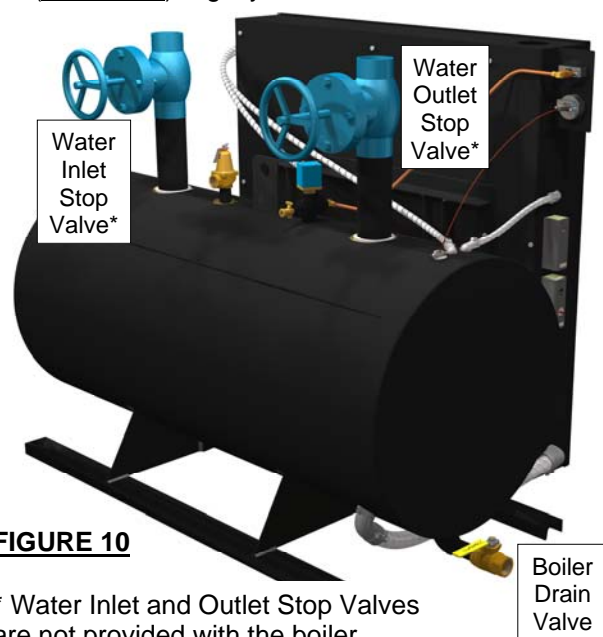

FIGURE 10
- Close the water inlet and outlet stop valves (FIGURE 10)
- Ensure that the boiler drain valve (FIGURE 10) is piped to a safe point of discharge